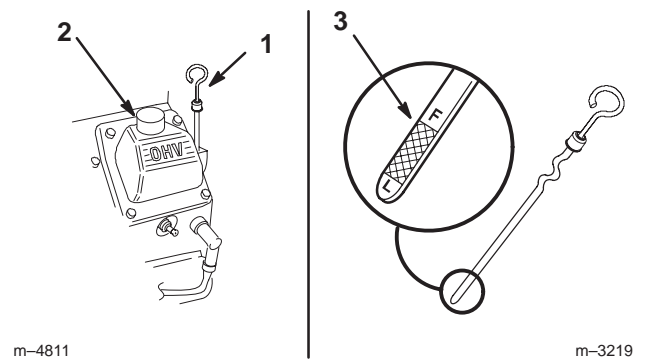

Figure 35
2. Clean around the oil dipstick (Fig. 35) so dirt cannot fall into the filler hole and damage the engine.
3. Pull the oil dipstick and wipe the metal end clean (Fig. 35).
4. Slide the oil dipstick fully into the filler tube. Pull the dipstick out and look at the metal end (Fig. 35). If oil level is low, slowly pour only enough oil into the filler tube to raise the level to the full mark.
5. Slowly pour approximately 80% of the specified oil, on page 31, into the filler cap (Fig. 35). Now check the oil level; refer to Checking Oil Level, page 31. Slowly add additional oil to bring it to the full mark.